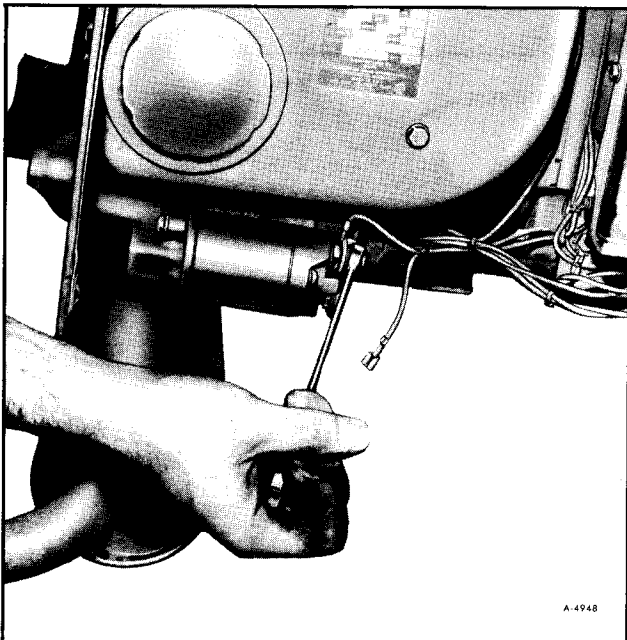

Figure 46—Disconnecting Wires from Starter Motor Solenoid
2. Disconnect the wires from the motor generator starter motor solenoid (See figure 46).